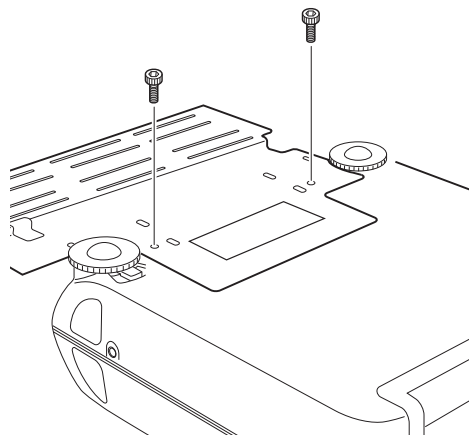
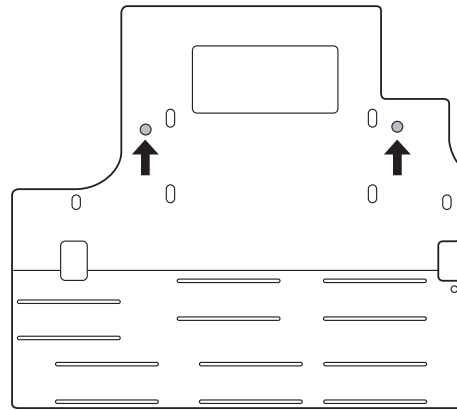

Figure 21
Figure 22
1. Spread a soft cloth on a stable, horizontal surface to protect against scratching, and carefully place the projector upside down on the cloth. Align the mounting holes on the LN-11S1A base plate with the lens slider attached with the two ceiling mount kit mounting screw holes located on the lens side of the projector. Refer to Figure 22. Attach securely using two M8x10 hexagonal set screws supplied with the LN-11S1A. Refer to Figure 21.